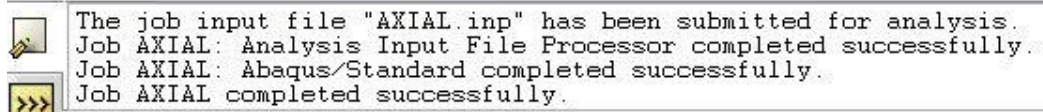

Figure 37. Status Window
- The model will now be submitted for analysis by Abaqus and the progress can be viewed in the status window at the bottom of the screen (Figure 37).